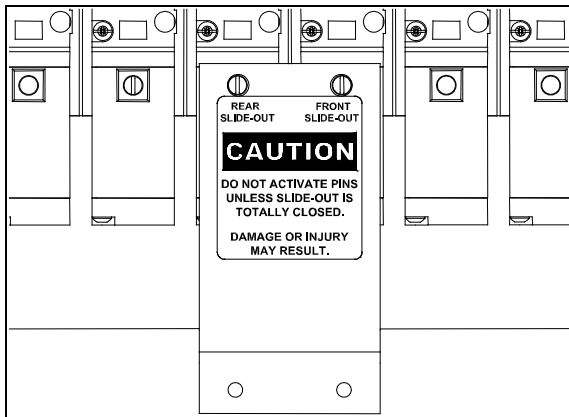
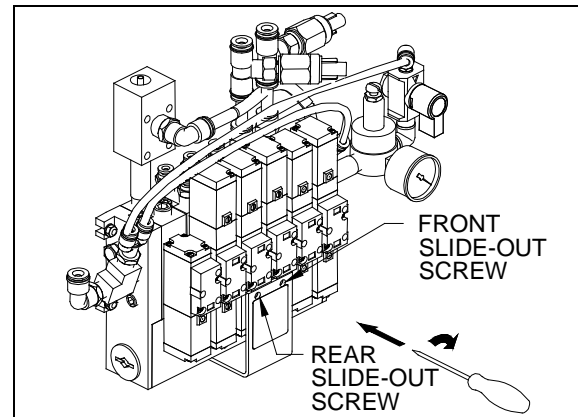

FIGURE 17 : LOCKING PIN VALVE PROTECTION PLATE
FIGURE 18 : LOCKING PIN VALVE LOCATION
- A) Identify the proper pneumatic valve controlling the locking pins of the problem slide-out in the control compartment (refer to figure 17 and figure 18).
- B) When the proper valve has been identified, insert a small screwdriver in the protection plate hole to access the "pin valve manual override screw" (figure 18). Turn the override screw clockwise to actuate the locking pins. During the process, you should hear a hissing sound, as the air flows to the pin cylinders.
- C) When the locking pins have been locked, re-insert a screwdriver in the protection plate hole (figure 18). Turn the override screw counterclockwise and keep it on this position to cancel the manual override actuation.